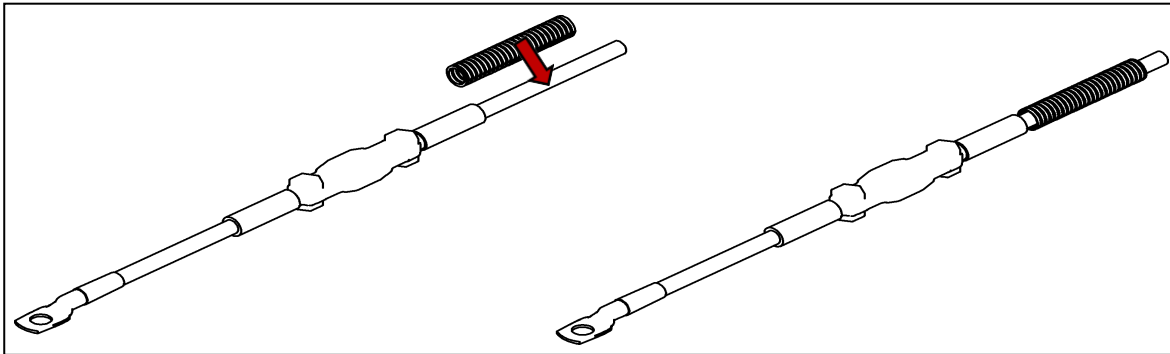

Figure 19
- Insert the positive cable (25 mm² red) (“power unit cable”) for the power supply into a length of slit corrugated tubing (see Fig. 19).